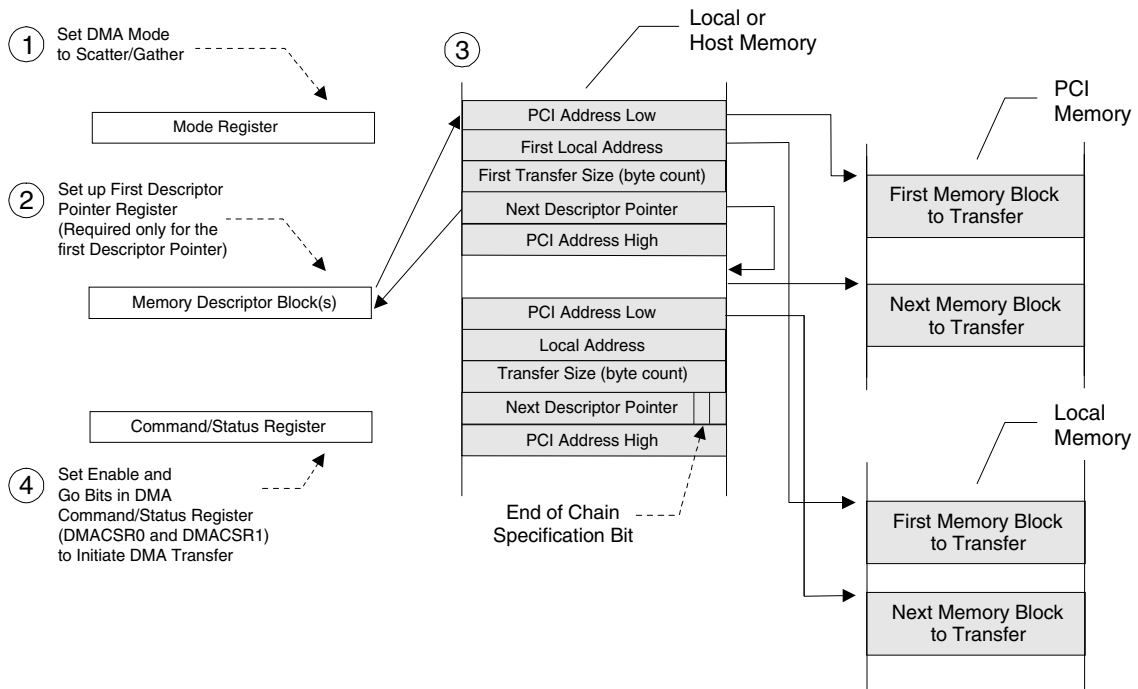

Figure 5-18. Scatter/Gather DMA Mode Descriptor Initialization [DAC PCI Address (DMAMODE0[18], DMAMODE1[18]) Descriptor Dependent] (PCI Address High Added)
- DMADAC0 and/or DMADAC1 contain(s) an 0x00000000 value. DMAMODE0[18] and/or DMAMODE1[18] is set to 1. The PCI 9656 performs a SAC five-Lword descriptor block load from PCI memory and DMA transfer with PCI DAC on the PCI Bus. (Refer to Figure 5-18.)
- DMADAC0 and/or DMADAC1 contain(s) a non-zero value. DMAMODE0[18] and/or DMAMODE1[18] is set to 1. The PCI 9656 performs a SAC five-Lword descriptor block load from PCI memory and DMA transfer with DAC on the PCI Bus. The fifth descriptor overwrites the value of the DMADAC0 and/or DMADAC1 register(s). (Refer to Figure 5-18.)